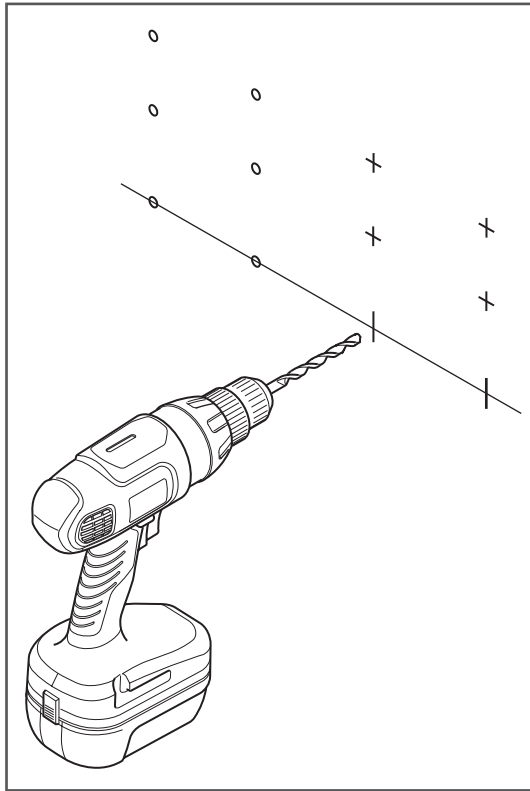

Figure 4
7. Drill out the marked holes using a drill with a 1/4" drill bit (Figure 4).